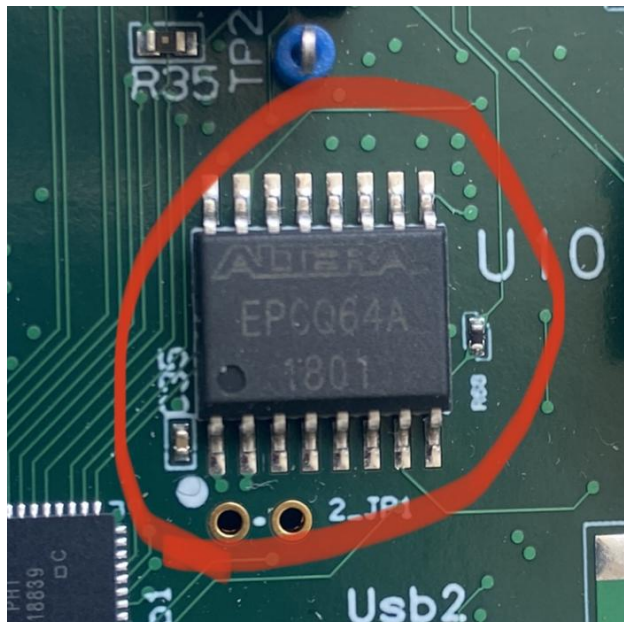

Figure 5: Altera Chip on ACDC
- (e) Look at the smaller Altera chip on the ACDC. This can read either “EPCQ64A”, “EPCS64”, or “EPCQ64”. An example can be seen in Fig. 5. Select the one that your chip reads under “Configuration Device” and click *OK*.